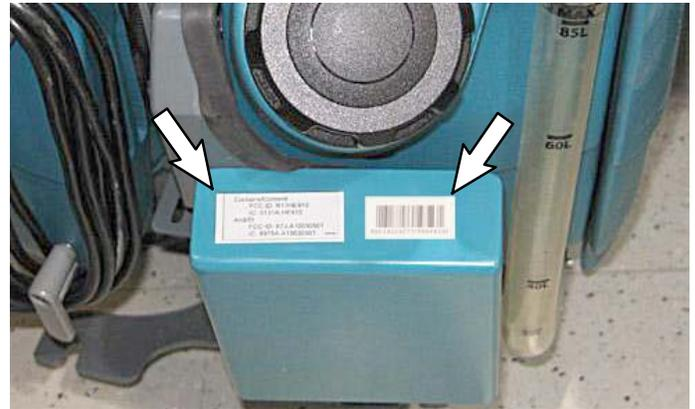

FIG. 32
33. Install the FCC label (24) and the SIM bar code label onto the telemetry cover (4). (FIG. 32)